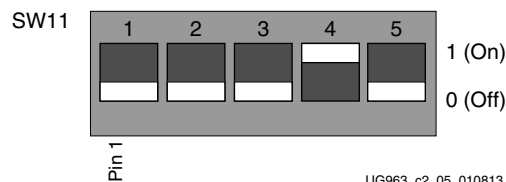

Figure 2-5: SW11 Quad SPI Flash Memory Settings
10. Set DIP switch SW11 as shown in Figure 2-5 for QSPI boot mode.